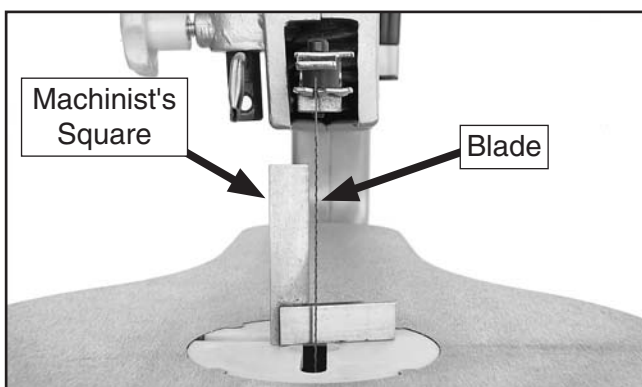

Figure 34. Squaring table to blade.
4. Place the machinist's square behind the blade, as shown in **Figure 34**.